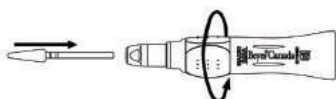

Fig.2
1. Open collet by turning grip 1/4 turn (clockwise) as shown in Fig 2. You will feel a "click" indicating the collet is open. The gap between the grip and handpiece retainer will narrow when the collet is open.